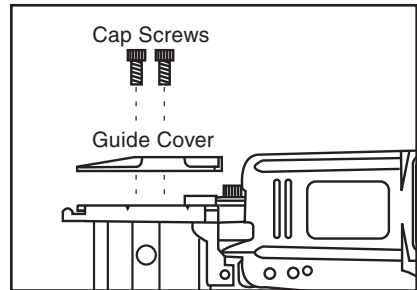

Figure 6. Nose opened to clear a jam.
2. Remove the two cap screws that secure the driver guide cover to the driver guide on the nose assembly, as shown in **Figure 6**.